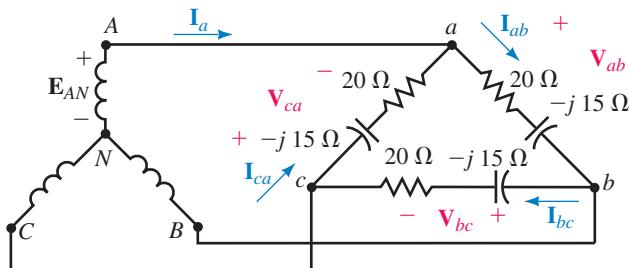

FIGURE 24–48 Balanced system.
7. For the load of Figure 24–47, $\mathbf{V}_{an} = 347 \text{ V} \angle 15^\circ$. Determine all line currents. Sketch their phasor diagram.
8. For the load of Figure 24–47, if $\mathbf{I}_a = 7.8 \text{ A} \angle -10^\circ$, determine the phase voltages and line voltages. Sketch their phasor diagram.
11. For the circuit of Figure 24–48, $\mathbf{V}_{ab} = 480 \text{ V} \angle 0^\circ$. Find the phase and line currents.
12. For the circuit of Figure 24–48, if $\mathbf{I}_a = 41.0 \text{ A} \angle -46.7^\circ$, find all the phase currents.
13. For the circuit of Figure 24–48, if $\mathbf{I}_{ab} = 10 \text{ A} \angle -21^\circ$, determine all the line voltages.
14. For the circuit of Figure 24–48, if line current $\mathbf{I}_a = 11.0 \text{ A} \angle 30^\circ$, find all the phase voltages.
18. Consider Figure 24–13(a). Show that $\mathbf{I}_a = \sqrt{3}\mathbf{I}_{ab} \angle -30^\circ$.
21. For Figure 24–49, $\mathbf{V}_{an} = 120 \text{ V} \angle 0^\circ$. Draw the single-phase equivalent and: